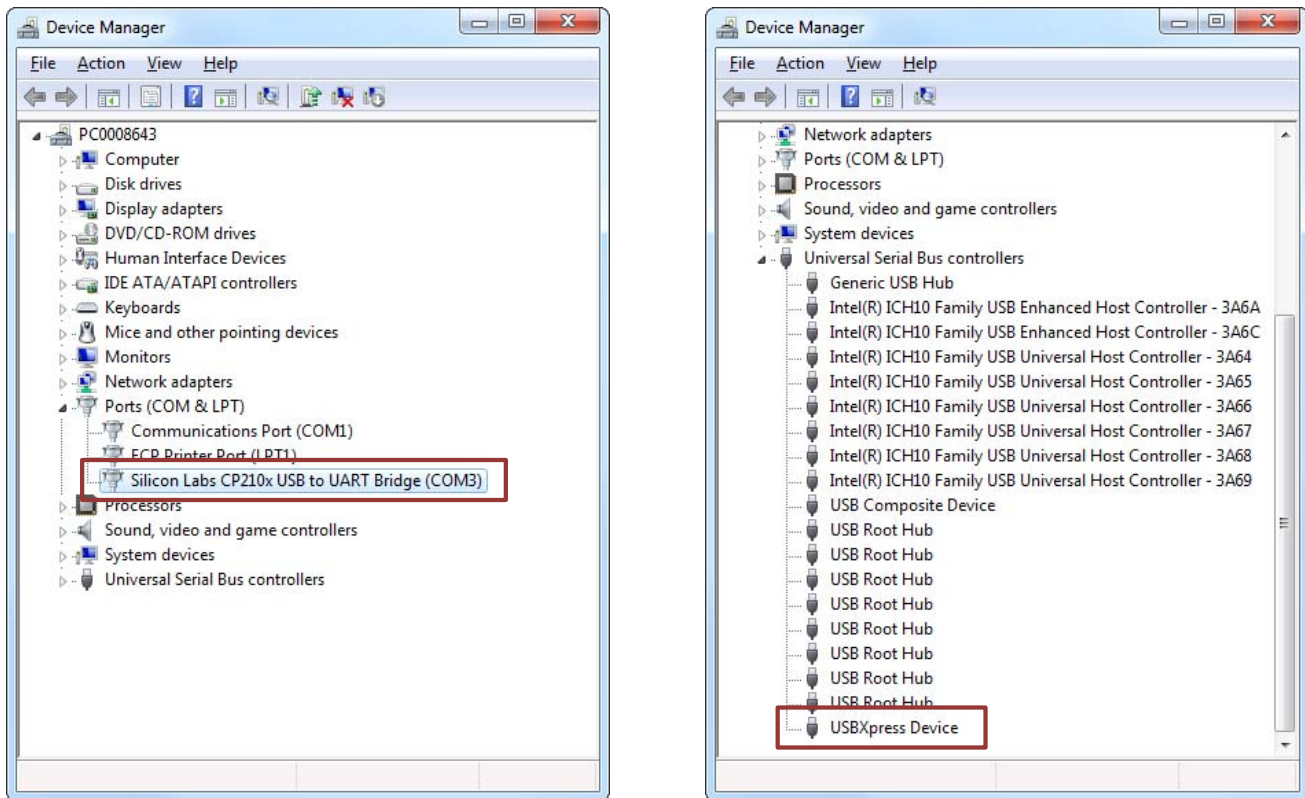
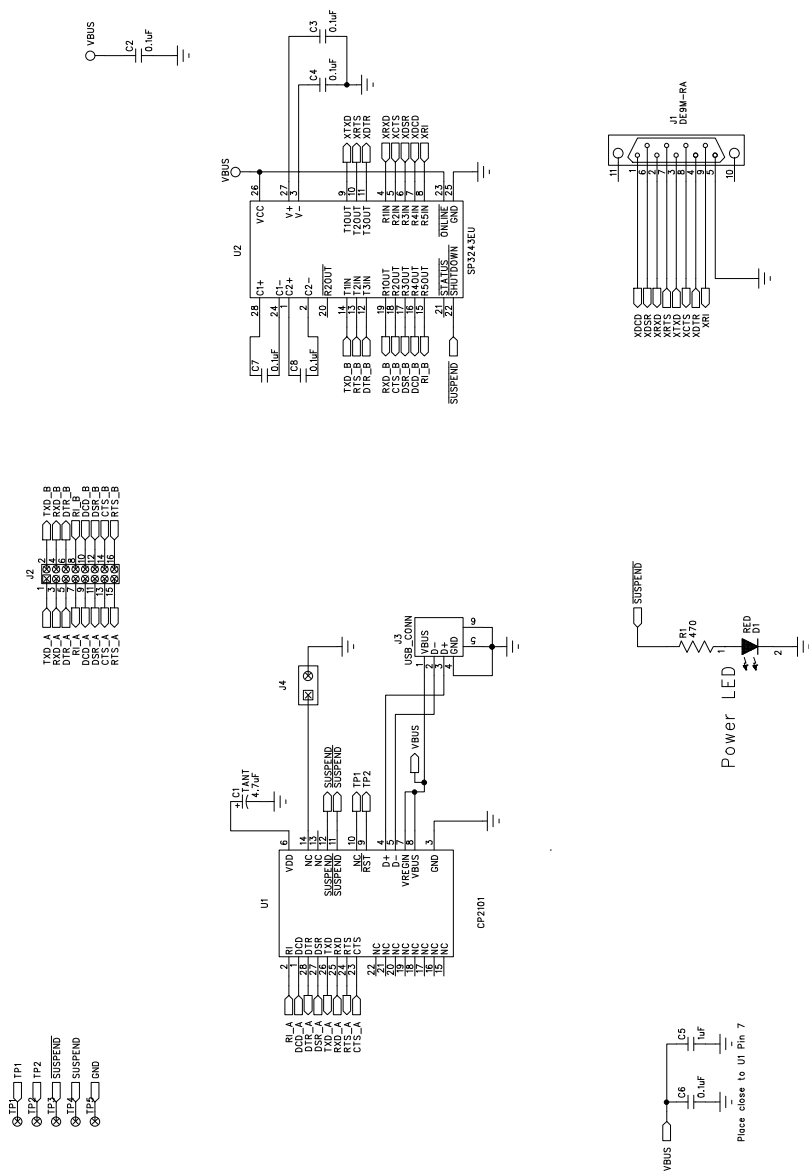

Figure 2. CP2101 in Device Manager
Figure 1. CP2101 Evaluation Board Schematic
If the Virtual COM Port drivers are used, the CP2101 will appear as a COM port in the Device Manager, as shown in Figure 2. The CP2101 will always use the lowest available COM port for operation. For instance, if COM ports 1 and 2 are in use by other peripherals and applications, the CP2101 will use COM 3.
If the USBXpress drivers are used, the CP2101 will appear as a USB USBXpress device as shown in Figure 2. Examples for how to communicate with the device using the USBXpress interface are included in AN169 on the [www.silabs.com/interface-appnotes](http://www.silabs.com/interface-appnotes) page.
- Updated Figure 1 and Figure 2.